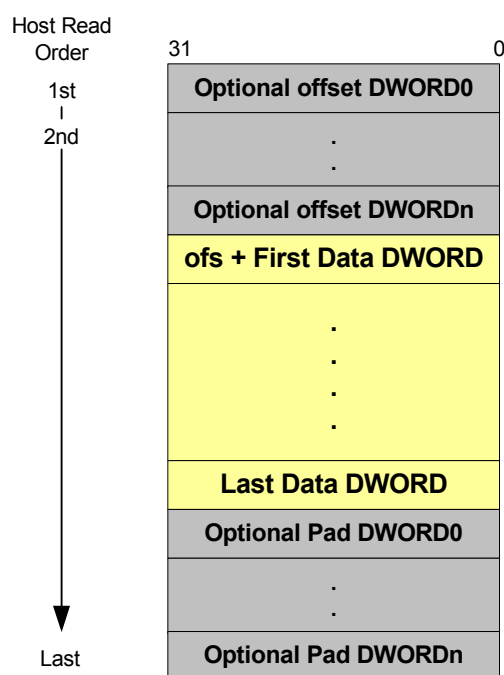

Figure 3.18 RX Packet Format
**3.15.3** The LAN9215 host bus interface supports 16-bit bus transfers; internally, all data paths are 32-bits wide. Figure 3.18 describes the host read ordering for pairs of atomic 16-bit transactions. **RX Status Format**